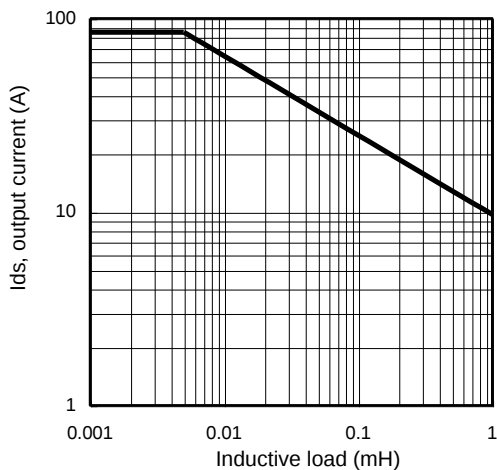

Figure 11 – Max. output current (A)
(1) Higher inductance is possible if maximum load current is limited - see figure 11